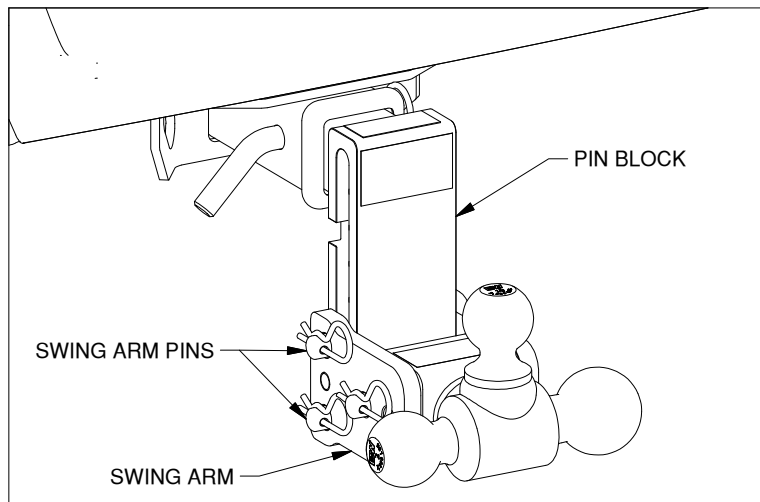

Figure B1: Tow & Stow, TS10048B shown.
1. **Remove the swing arm pins:** While holding onto the swing arm, unclip and remove the two pins which hold the swing arm to the pin block, see Figure B1. These shorter pins (5.2" long) will be replaced by longer pins that come with the step (5.66" long). Carefully let the swing arm down so it hangs under the pin block.